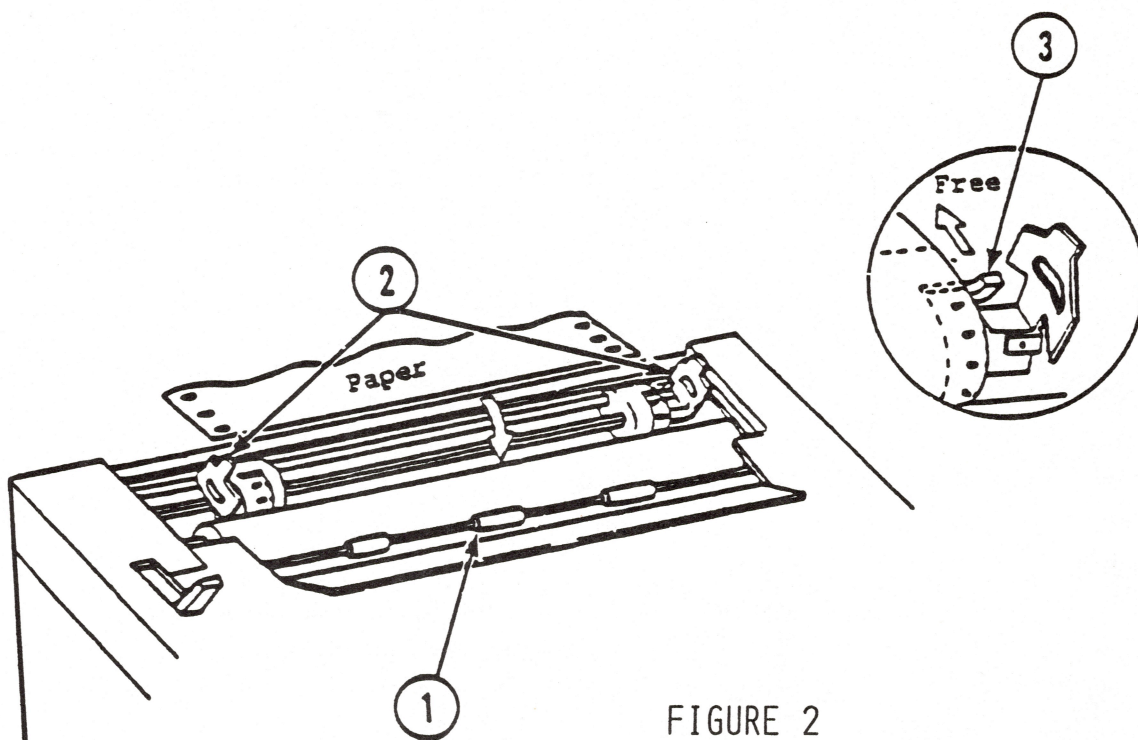

FIGURE 2
5. Pull the paper bail shaft forward (see Figure 2, #1).
6. Lift the covers up on the right and left tractor sprockets (see Figure 2, #2).
7. Make sure the left tractor is all the way over to the left. To move the tractor, push back the white lever (see Figure 2, #3). Move the tractor all the way over to the left. To lock the tractor in place, pull the white lever back toward you.